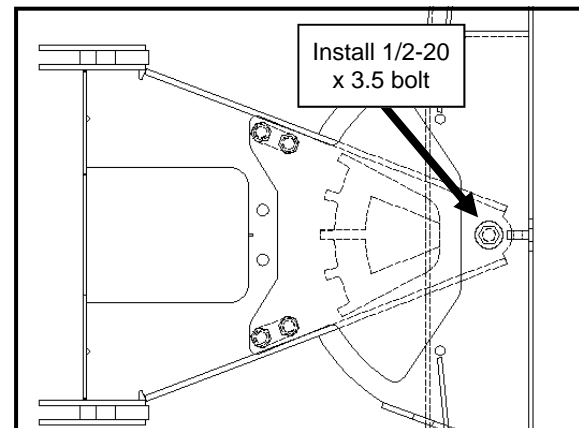

Fig. 3.2—A-Frame and Trip Frame
**3.2** Per fig. 3.2, slide the A-Frame into the trip frame pocket, aligning the 1/2" bolt holes on both assemblies. Install the 1/2-20 x 3.5" hex head bolt with a 1/2" washer under the head of the bolt. Then thread on the lock nut. Tighten until all slack is removed from the bolt while the A-frame is allowed to rotate freely in the trip frame pocket.